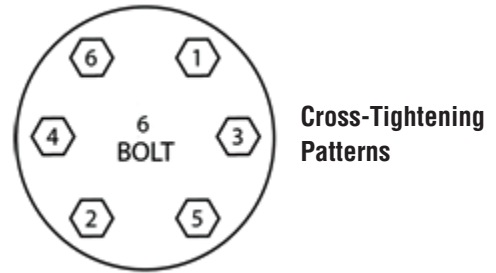

Figure 4. Bolt Tightening Example
8. Install a new gasket in the body and secure the body to the cap using a cross-tightening pattern. See Table 4 and Figure 4.